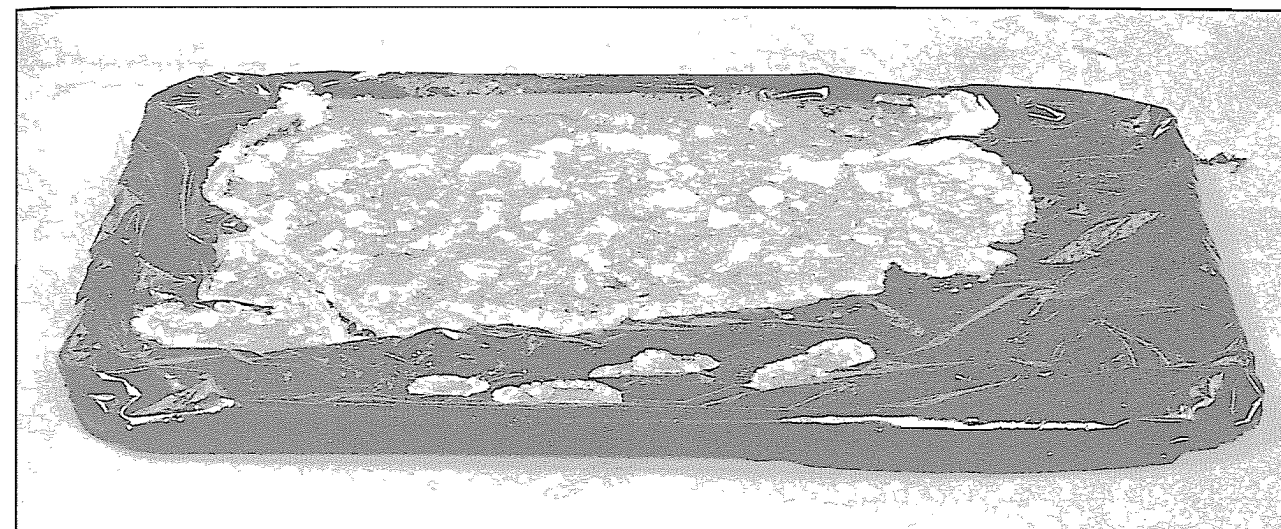

Figure 6-31. Sodium nitrate crystals forming as the filtered solution is dried in the sun.
4. Place the cookie sheet on a level surface outdoors, and cover it with the sheet of plastic. Pour the filtered solution from **step 3** onto the plastic, and let it to dry in the sun (Figure 6-31). This will get the nitrate *almost* dry, but not quite.